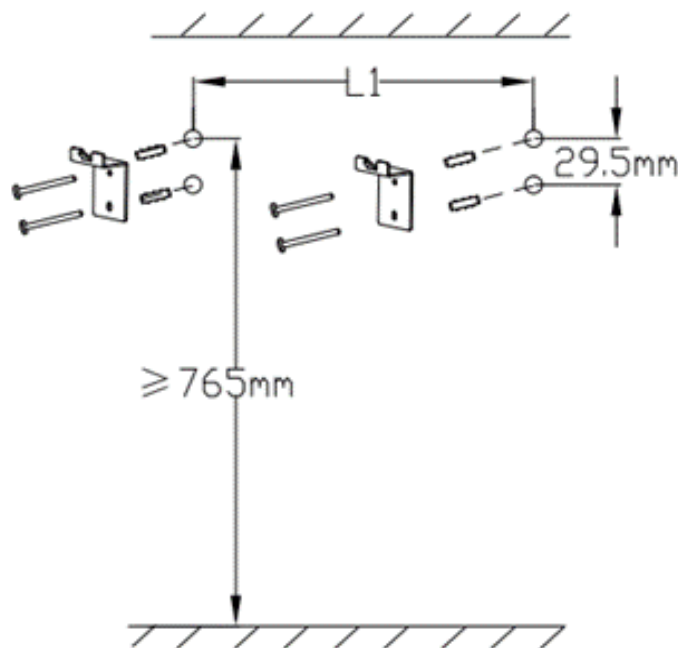

Figure 2: Upper bracket positions on the wall
(**Table 3, Figure 2**)
4. Use 4 of the long screws to secure the upper brackets to the wall with the hooks facing upwards (**Figure 2**)